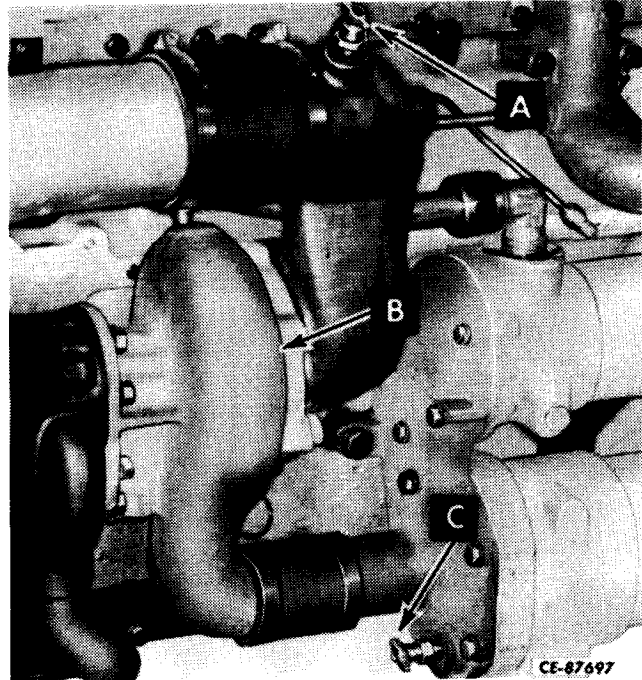

Fig. 23. Drain and Vent Points
5. Reach below and behind the water pump housing (B, Fig. 23) and open the torque converter oil cooler drain valve (C, Fig. 23).
2. Open the water pump inlet elbow vent valve (A, Fig. 23) and the vent plug on the intercooler.
3. Fill the cooling system until a continuous flow of coolant is noted at the water pump inlet elbow vent valve (A, Fig. 23). Close this valve.